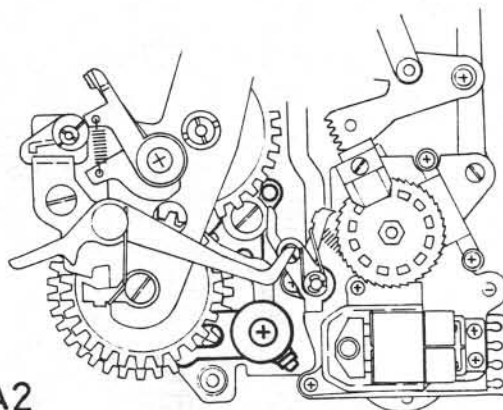

Fig. 19
- 16-2 Set Wind mech. block in the coked condition. Refer to Fig. 19.